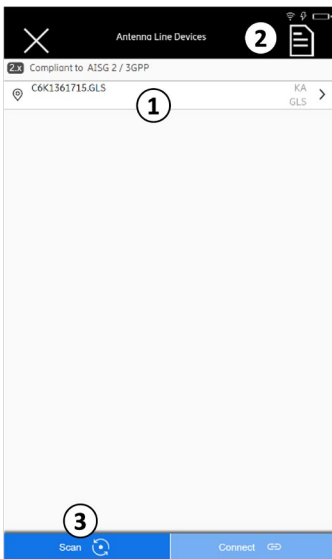

Fig. 94: Devices: GLS connected
- ② Generates ALD reports, see 9.3
- ③ Selects the AISG protocol scanning options, see 9.1.1
- Tap ① in Fig.94 to open the list with the subunits.